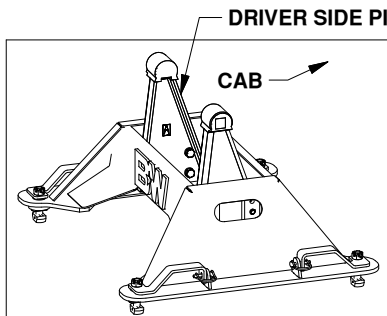
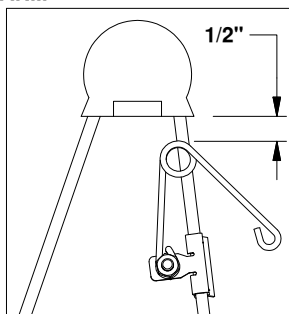

**Figure B1:**
**Figure B2:**
- Assemble kit.** Locate the 1/4" cap screw and nut, along with the wire torsion spring and mounting clip. Pass the 1/4" cap screw through the mounting clip and the wire spring, as shown in Figure B1. Thread the 1/4" lock nut onto the 1/4" cap screw. Tighten the lock nut just enough that the spring will stay in place but will still be able to rotate around the bolt if needed, see Figure B2.